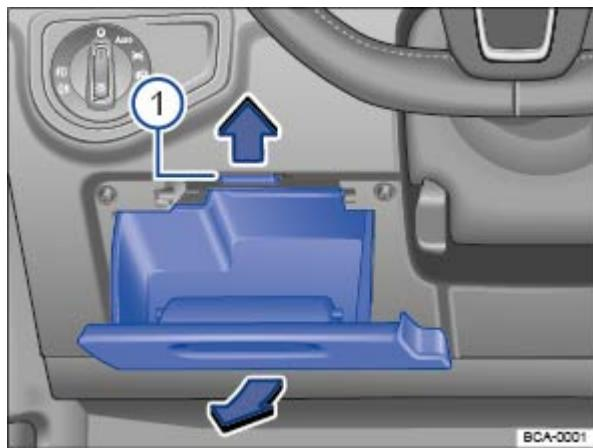

Fig. 169 On the driver side in the instrument panel: Removing the storage compartment to access the fuses.
- With one hand, press the rubber release ① tab up at the top of the storage compartment to release the fuse box cover. The cover should open easily.
- To *install*, fit the cover on the hinges at the bottom of the opening. Guide the cover into the instrument panel by pushing in the direction opposite of the arrow until it latches into place ⇒ Fig. 169 .